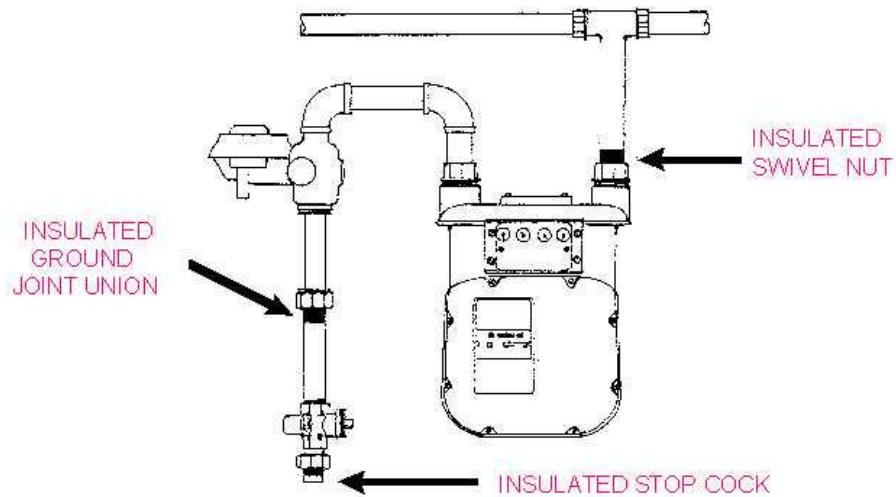

Figure VIII-13
4. Before the corrosion engineer arrives, it is a good idea to make sure customer meters are electrically insulated. If the system has no meter, check to see if the gas pipe is electrically insulated from house or mobile home piping. (See Figure VIII-13.)